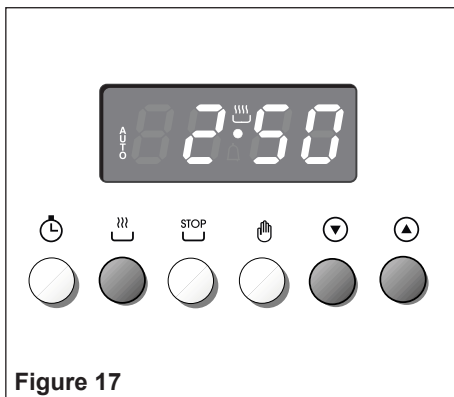

Figure 17
1. Set the length of the cooking period by pushing the  button and the  button to increase, or  to decrease if you have passed the desired time (fig. 17). The **AUTO** and the  symbol will illuminate.